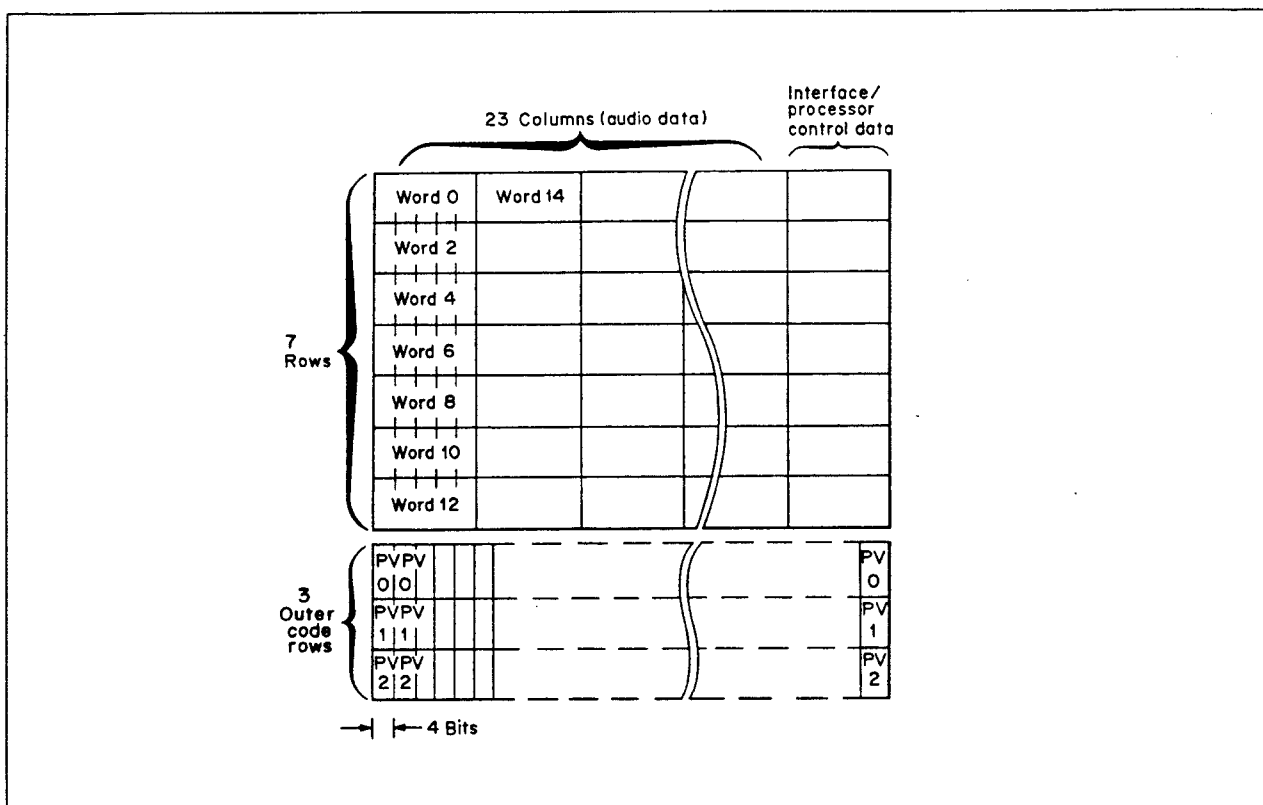

Fig. 3-8-12. Audio Product Block Layout (Even samples/AE-06 Board)
As shown in Fig. 3-8-12, the audio product block is composed of the audio data, addition data and user data. On the AE-06 board, data readout from audio data memory ICJ28, addition data memory ICJ2 and user data memory ICD30 is controlled by ROM ICG23, G25, J20 and J22, and the data are supplied to the encoder in sequence from the outer code block at the left side of Fig. 3-8-12. The data of 8 code blocks (4 channels \times 2 blocks) are input in the following sequence: CH1 (EVEN) \rightarrow CH2 (E) ... CH4 (E) \rightarrow CH1 (ODD) \rightarrow CH2 (O) ... CH4 (O) \rightarrow CH1 (E) \rightarrow ...
As shown in Fig. 3-8-12 (refer to the AE-06 board in Section 4-3-8), the audio product block is composed of the audio data, the addition data which controls the audio data, and the user data. For a detailed description of the addition data, refer to the AE-06 board in Section 4-3-8.